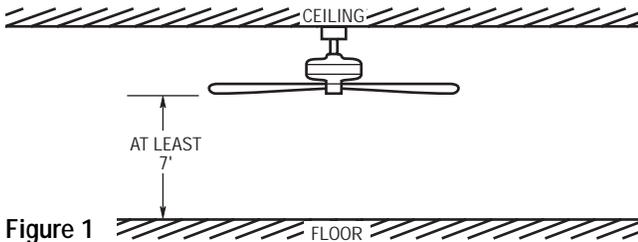

Figure 1
**The fan must be hung with at least 7' of clearance from floor to blades (Figure 1).**